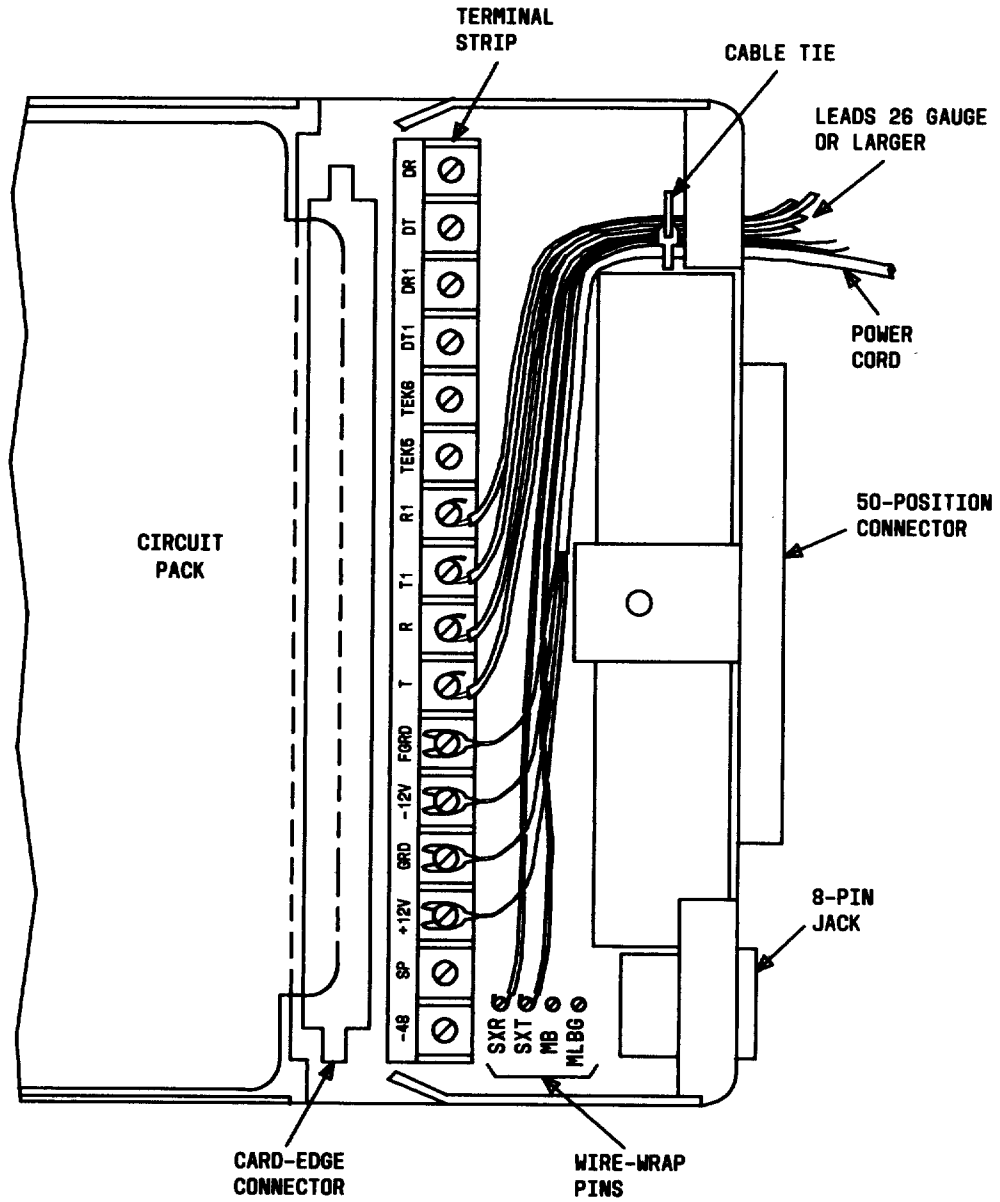

Fig. 5—Terminal Strip and Wire Wrap Connections ( $\pm 12$  Volt Power Shown)
**4.11** Restrain the leads to the terminal strip and wire wrap pins with a cable tie as shown in Fig. 5.